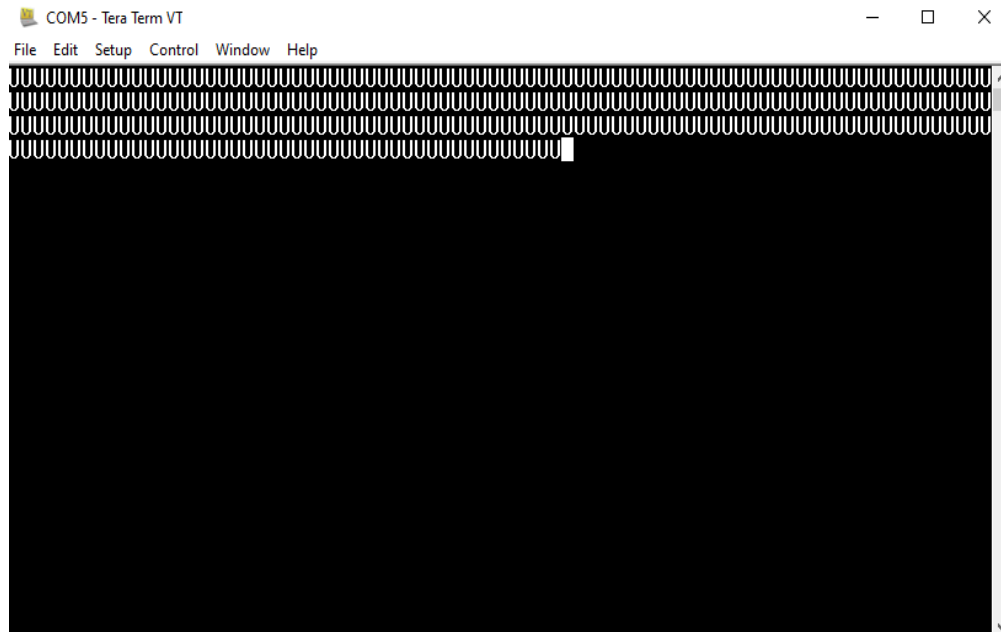

Fig. 7
- Keep adjusting both the pots until you find “U” displaying in serial window as shown in Fig. 7.